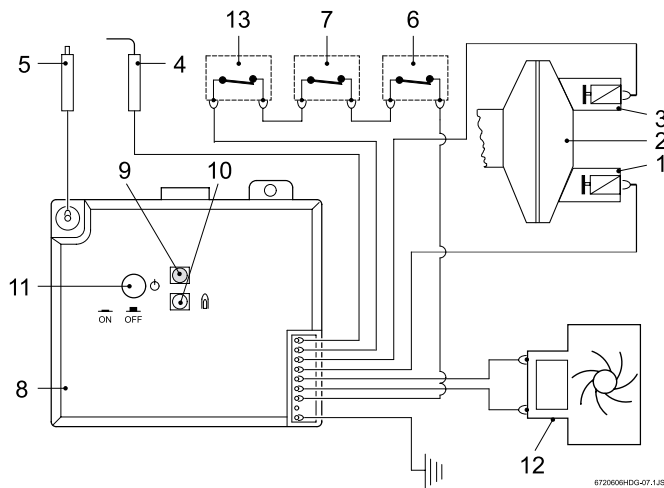

Fig. 13 - Electrical wiring diagram
4. Pilot electrovalve switch may need to be replaced (See Fig 13).
5. Electronic Control Box may need to be replaced (See Fig 13).
4. **The electrical Control Box (Fig. 13) may need to be replaced.**